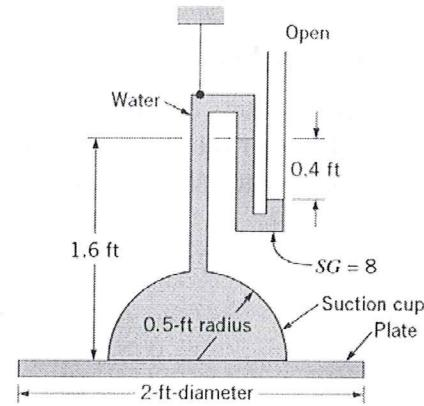

Figure 3
3. A suction cup is used to support a plate of weight W as shown in figure 3. For the conditions shown, determine W .